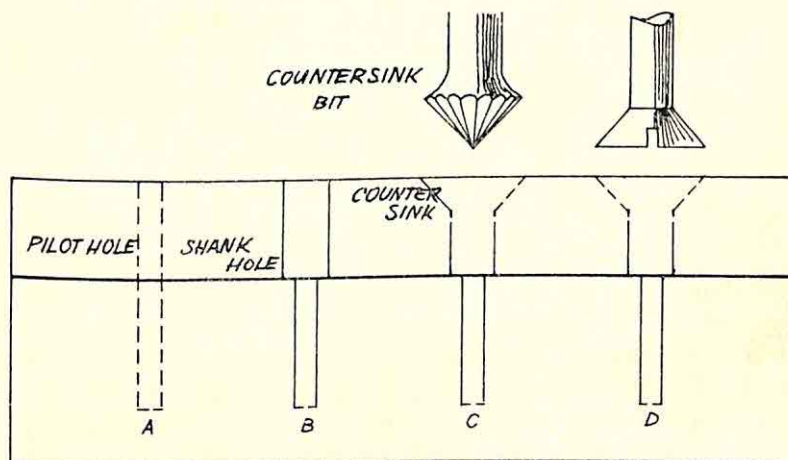

Figure 34
1. Drill a pilot hole, in both pieces of wood, equal in size to the core of the screw (A). The pilot hole should be half the diameter of the shank hole.
2. In the piece to be fastened, drill a hole slightly wider than the size of the shank of the screw (B).
3. Countersink the shank hole to take the head of the screw, using a countersink-bit as shown in Figure 34.